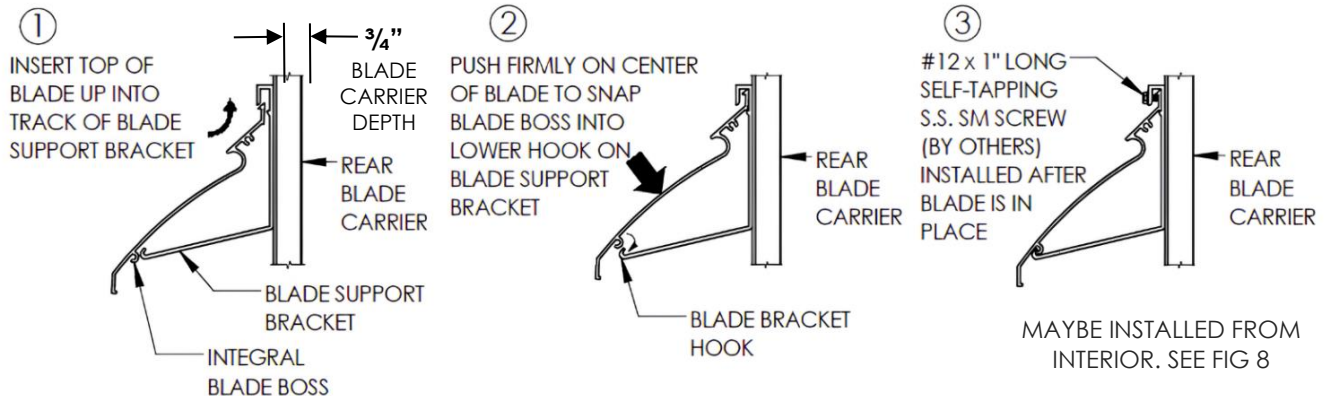
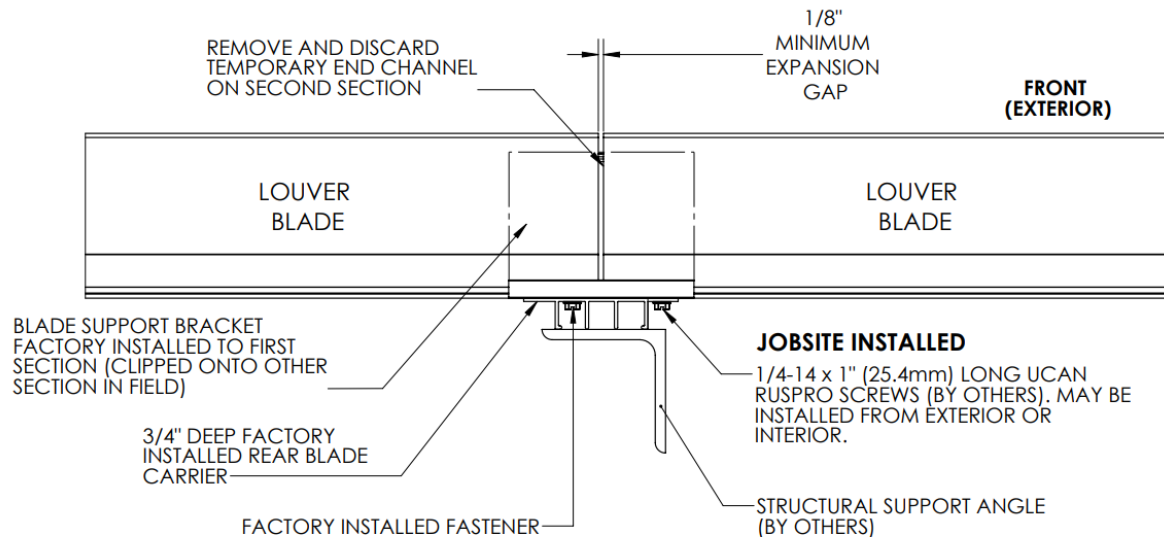
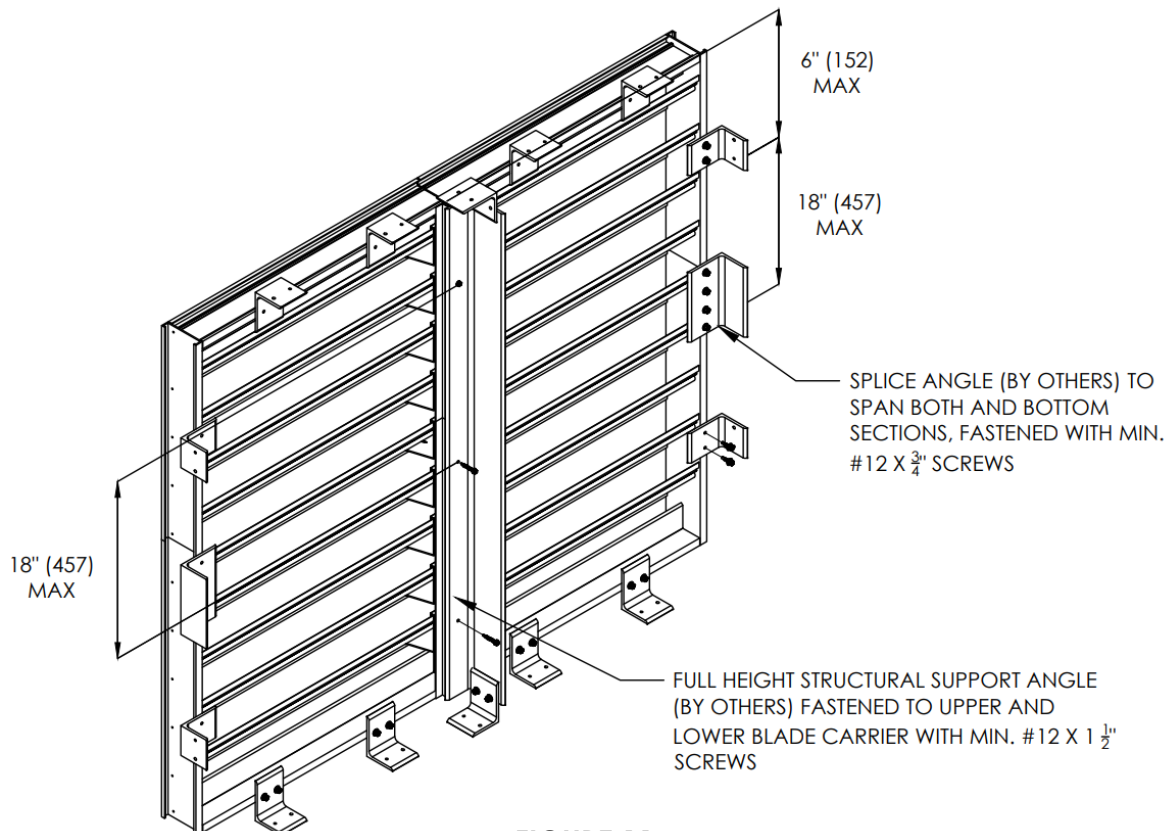
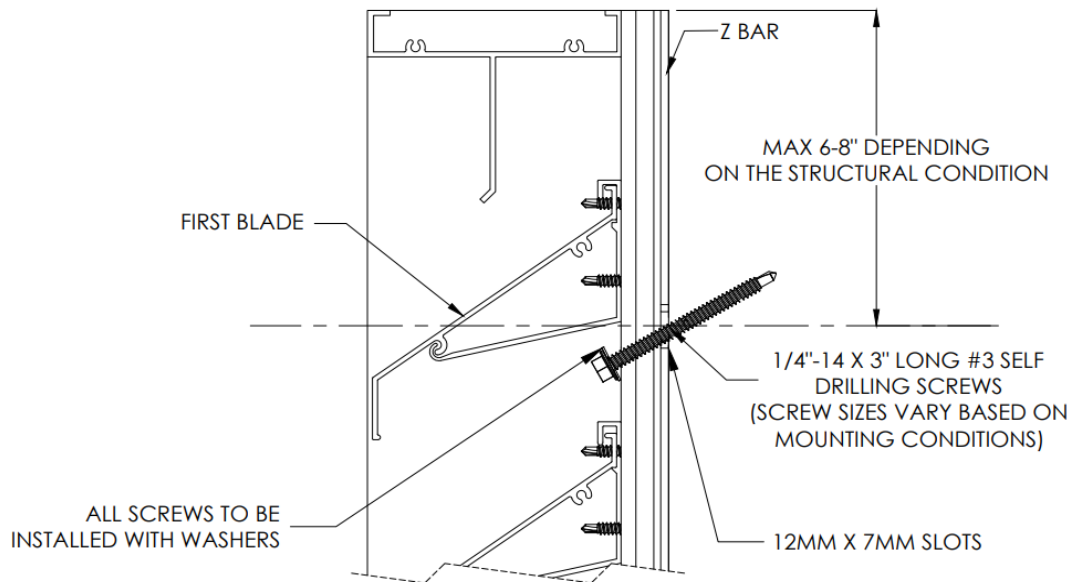

FIGURE 7
FIGURE 8
FIGURE 11
FIGURE 12
Install the left section first (as viewed from building exterior), then other sections progressively working from left to right. Use shims to position the louver so that it is both level and plumb in the opening and the desired sealant gap is achieved at the perimeter. When the louver is in the appropriate position, fasten perimeter louver frame to clip angles, and any rear intermediate mullions/blade supports to structural bracing using minimum #12 x 1" stainless steel self-tapping sheet metal screws (by others) spaced on maximum 18" (457mm) centers. (Refer to Figure 7 for center details.) For taller vertical mullions (fixed blade louvers only) where no bracing is present, mullion frames may be fastened together as necessary using minimum 1/4" dia. x 2 1/2" long bolts with lock nuts and washers spaced on maximum 18" (457mm) centers (see **Figures 3 and 4**). After fastening is complete, install backer rods if necessary (by others) and apply caulking (by others) around the perimeter of the louver.
3) AFTER REMOVING THE TEMPORARY JAMB, JOIN THE TWO LOUVER SECTIONS USING THE BLADE BRACKET (SEE FIG 7 & 8)
Install the left section first (as viewed from building exterior), then other sections progressively working from left to right. Use shims to position the louver so that it is both level and plumb in the opening and the desired sealant gap is achieved at the perimeter. When the louver is in the appropriate position, fasten perimeter louver frame to clip angles, and any rear intermediate mullions/blade supports to structural bracing, using minimum #12 x 1" stainless steel self-tapping sheet metal screws (by others). After removing the temporary end channel from the second section, install the section, aligning the blade ends with the corresponding blade support brackets factory installed on the first section, guiding the top of each blade up into the top track of each blade support bracket (see **Figure 7**). Firmly push center of each blade end to snap the integral blade boss into hook of blade bracket. Secure each blade to bracket and carrier using #12 x 1" (25mm) stainless steel self-tapping sheet metal screw (by others) (see **Figures 7 and 8**). Section should be positioned to provide appropriate expansion gap of Min. 1/8" between ends of blades. Repeat process for additional sections. After fastening is complete, install backer rods if necessary (by others) and apply caulking (by others) around perimeter of frame. When viewed from a distance of 10 ft, the blades must appear straight and evenly aligned (see Figure).
Install the lower sections first. Start with the far-left section (as viewed from building exterior), then other sections progressively working from left to right (see **Figure 8**). Use shims to position the louver so that it is level and plumb in the opening and the desired sealant gap is achieved at the perimeter. When the louver is in the appropriate position, fasten perimeter louver frame to clip angles, and any rear intermediate mullions/blade supports to structural bracing, using minimum #12 x 1" stainless steel self-tapping sheet metal screws (by others). After removing the temporary end channel from the second section, install the section, aligning the blade ends with the corresponding blade support brackets factory installed on the first section, guiding the top of each blade up into the top track of each blade support bracket (see **Figure 7**). Firmly push center of each blade end to snap the integral blade boss into hook of blade bracket. Secure each blade to bracket and carrier using #12 x 1" (25mm) stainless steel self-tapping sheet metal screw (by others) (see **Figures 7 and 8**). Section should be positioned to provide appropriate expansion gap between ends of blades. Repeat process for upper sections. A thin bead of caulking may be applied between upper and lower side jamb frame sections to ensure water tightness, especially on drainable louvers. Upper and lower sections may be fastened together at side jamb frames using splice angles. Secure the upper and lower rear blade carriers to the structural bracing using a minimum of No. 12 x 1-1/2" stainless steel screws (by others) when installation is from the interior (see **Figure 11**). When installation is from the exterior, use 1/4 - 14 x 3" screws installed between the blades, with screw spacing as determined by the engineer (see **Figure 12**). After fastening is complete, install backer rods, if necessary (by others) and apply caulking (by others), around perimeter of frame.